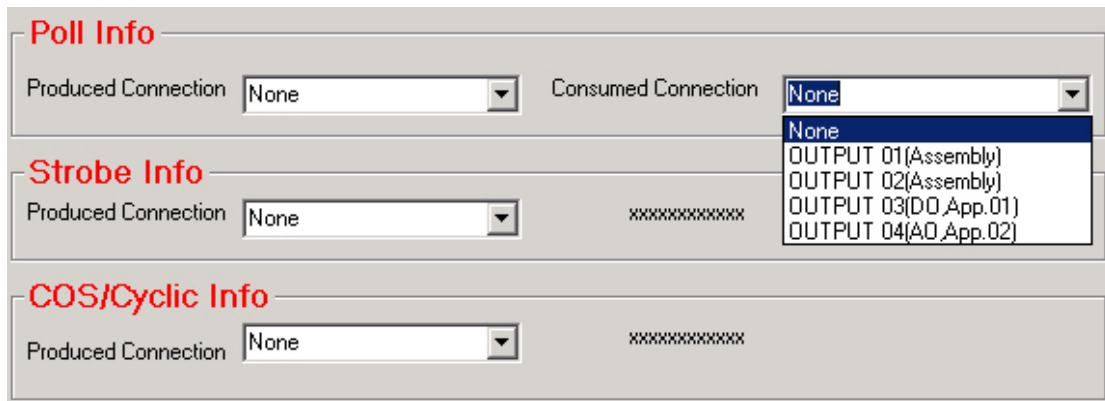

Fig 5-26
Step 11: Set the Polling/Bit Strobe/COS/Cyclic IO connection path for the i-7241D as figure 5-26.